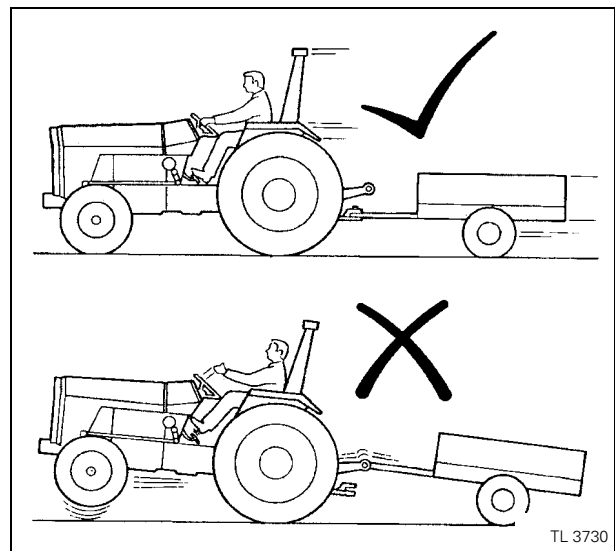

Fig. 23
- Pull only from the approved drawbar. Towing or attaching to other locations may cause the tractor to overturn (Fig. 23).